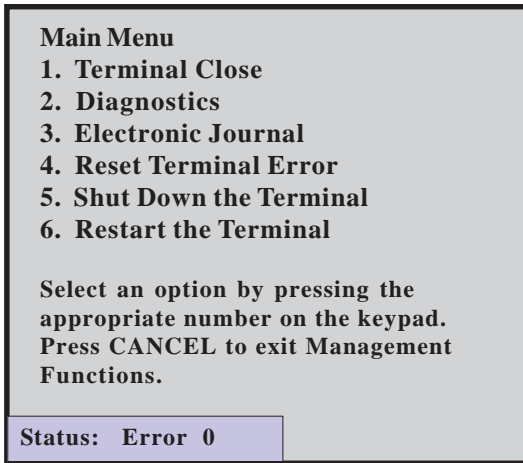

Figure 4. RSP main menu screen..
4. The RSP displays its Main menu options as shown in Figure 4.